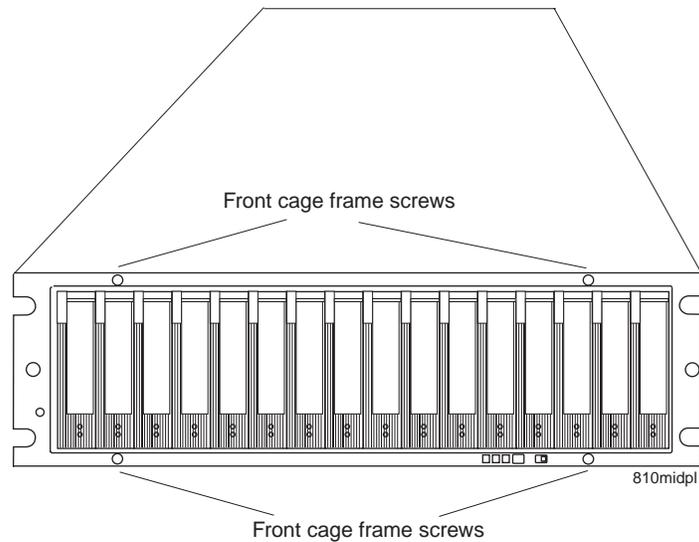

Figure 80. Replacing a midplane
9. Use a #1 Phillips screwdriver to loosen the four front cage frame screws on the midplane, as shown in Figure 80 on page 133.